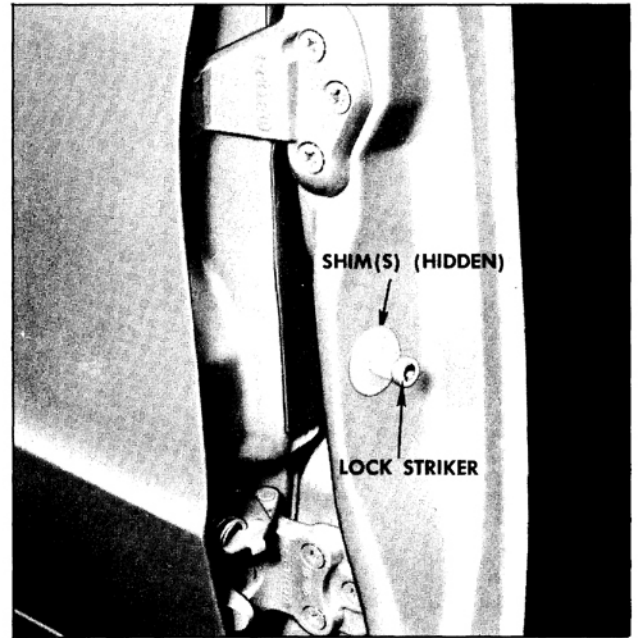

Fig. 16-327 Front Door Lock Striker
2. Using a 5/16" hex head wrench (Allen), remove striker from body lock pillar. (Fig. 16-327)